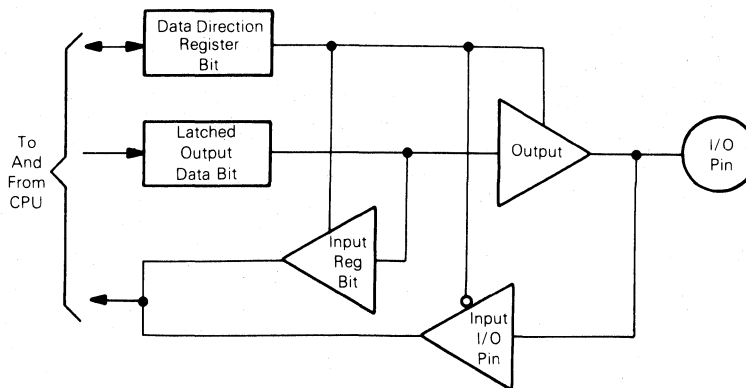

Fig. 11 - Typical I/O port circuitry.
**PA0-PA7** — These eight pins constitute Input/Output Port A. Each line is individually programmed to be either an input or output under software control via its Data Direction Register as shown below. An I/O pin is programmed as an output when the corresponding DDR bit is set to a "1," and as an input when it is set to a "0". In the output mode the bits are latched and appear on the corresponding output pins. An MPU read of the port bits programmed as outputs reflect the last value written to that location. When programmed as an input, the input data bit(s) are not latched. An MPU read of the port bits programmed as inputs reflects the current status of the corresponding input pins. The Read/Write port timing is shown in Figure 3. See typical I/O Port Circuitry in Figure 11. During a Power-On Reset or external RESET all lines are configured as inputs (zero in Data Direction Register). The output port register is not initialized by reset. The TTL compatible three-state output buffers are capable of driving one standard TTL load and 50 pF. The DDR is a read/write register.